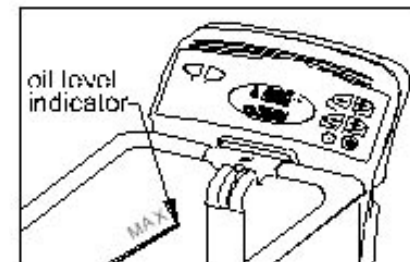

Fig. 2
- The oil level must always be maintained between the minimum and the maximum levels marked inside the oil container. Check the oil level before each use. For best results, keep the oil close to the maximum level (19 cups/4.5 liters). Fig. 2